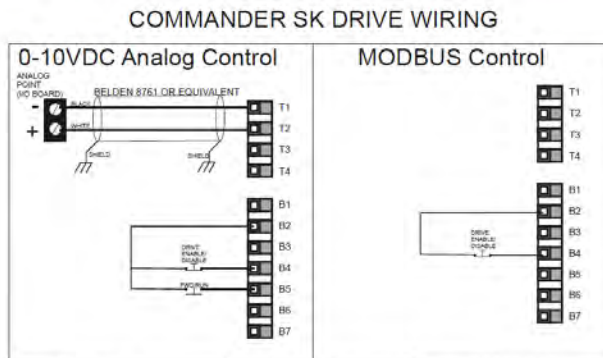

Figure 1 - Commander SK Drive Wiring (Analog and MODBUS)
*Figure 1* on page 3 shows wiring for the Commander SK for both 0-10VDC and MODBUS drive control. For analog control, use Belden 8761 or equivalent cable to connect the analog point to the T1 and T2 terminals on the Commander SK, and connect a relay point on a MultiFlex or 8RO board to terminals B2 and B5 to control the FWD/RUN signal.